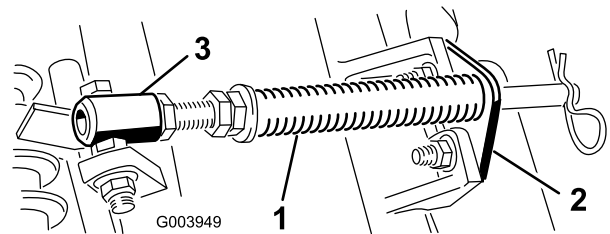

Figure 4
- A. Remove the 2 carriage bolts and nuts securing the rod bracket to the cutting unit tabs (Figure 4).
- B. Remove the flange nut securing the spring tube bolt to the carrier frame tab (Figure 4) Remove the assembly.